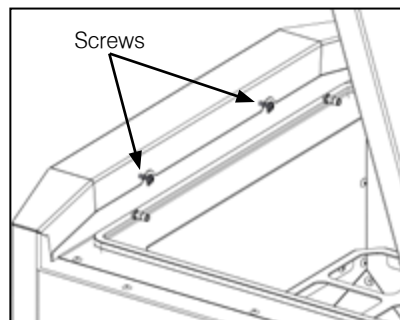

Figure 10-5: Front panel fixing screws
1. Remove the front panel from the side pellet store. Undo and remove the two panel retaining screws at the top inside of the panel. Refer to Figure 10-5. Lift the front panel upwards and off the side pellet store casing.
7. Re-fit the front panel to the side pellet store. First engage the three tabs on the bottom edge of the front panel into the corresponding slots in the bottom of the side pellet store. Then secure it in place by re-fitting the two panel retaining screws at the top inside of the panel. Refer to Figure 10-5.